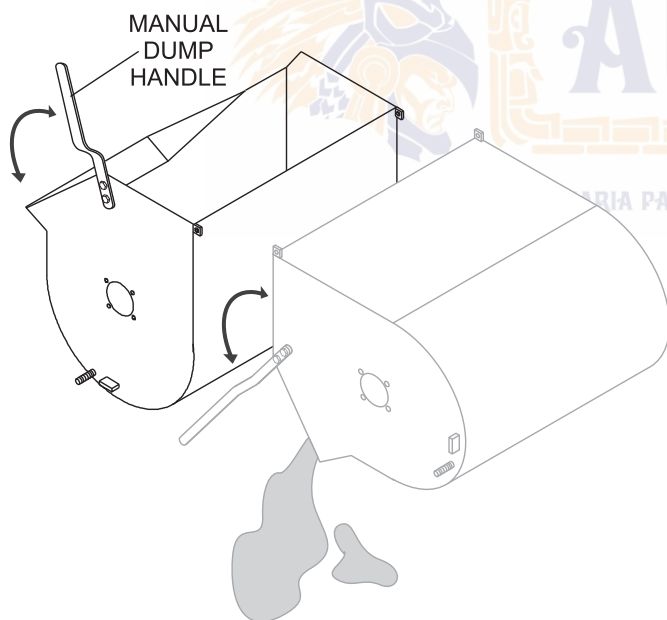

Figure 26. Manual Dump Handle
2. Pull dump handle downward to discharge (empty) the drum. Move dump handle upward to return it to vertical position. (Figure 26).